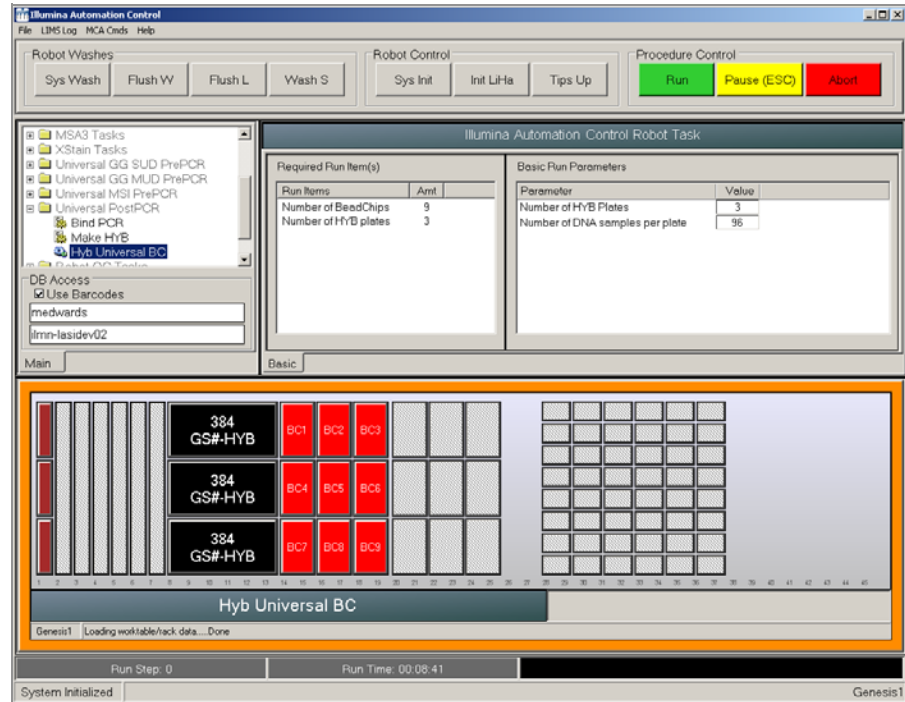

Figure 58 Universal PostPCR | Hyb Universal BC Screen
4. From the robot PC, select **Universal PostPCR | Hyb Universal BC** (Figure 58).
8. Place the Robot BeadChip Alignment Fixtures onto the robot bed according to the bed map (Figure 58). Push the Robot BeadChip Alignment Fixture to the upper left corner in its section of the robot bed. Make sure the silver arrow is pointing to the top left when you place the Robot BeadChip Alignment Fixture on the Robot bed.